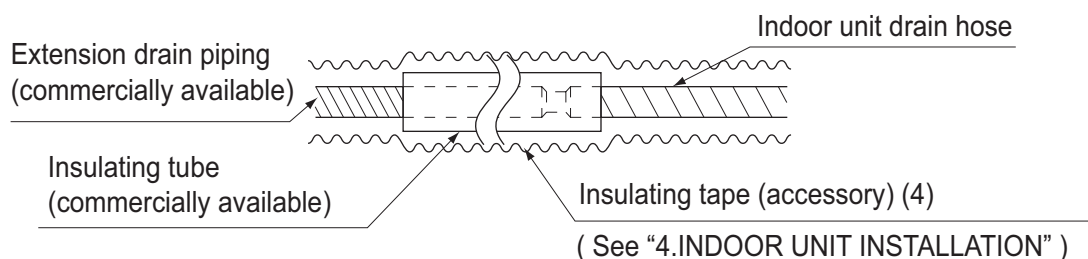

Fig. 17
- When extending the drain hose, use a commercially available drain extension hose, and be sure to insulate the extended section of the drain hose which is indoors. **(Refer to Fig. 17)**